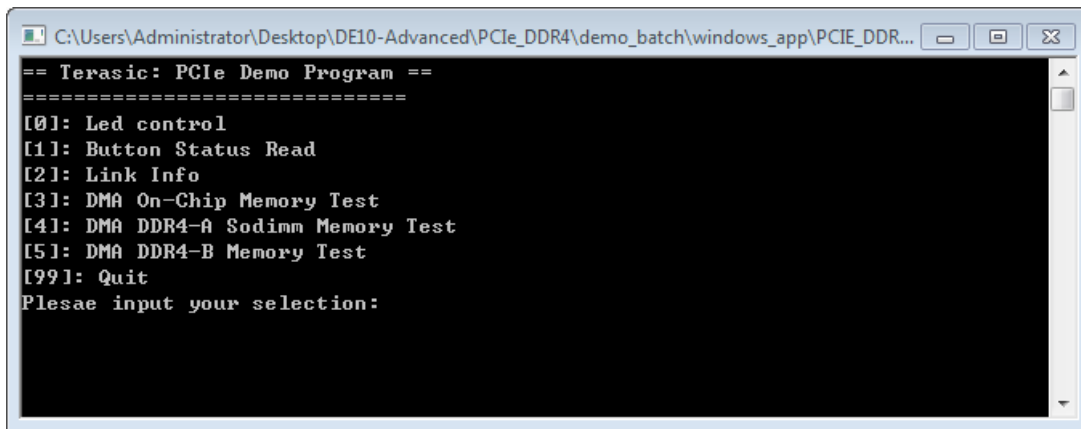

Figure 5-19 Screenshot of Program Menu
8. Goto windows_app folder, execute PCIe_DDR4.exe. A menu will appear as shown in **Figure 5-19**.